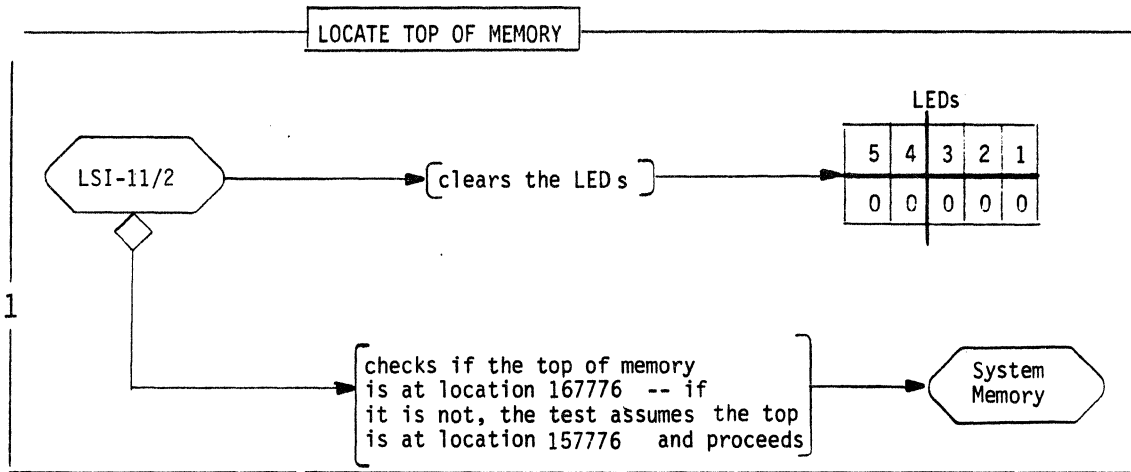

Fig. 3-5. Locate top of memory.
1. LOCATE TOP OF MEMORY (Fig. 3-5). The test sets the LEDs to 00 and searches for the highest memory location. Since the 8501 is shipped with 32K-words of memory, the highest memory is 167776. If the top of memory is not at location 167776, the test assumes that the unit contains only 28K-words of memory and the top of memory is at location 157776.